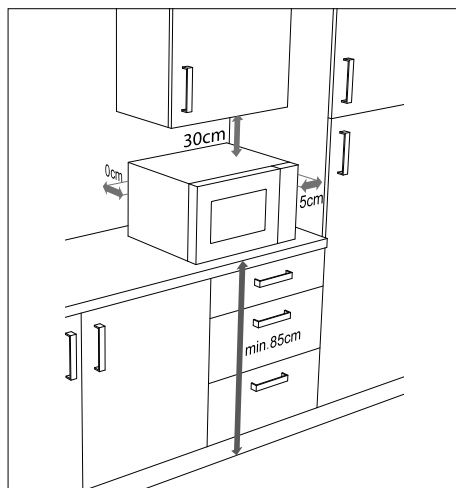

Fig. 3 – Appliance clearance
- ▶ To ensure adequate ventilation, the clearances specified in "**Fig. 3 – Appliance clearance**" must be maintained. The spacer at the back of the appliance must touch the wall. It ensures that the correct clearance is maintained when positioning the microwave.